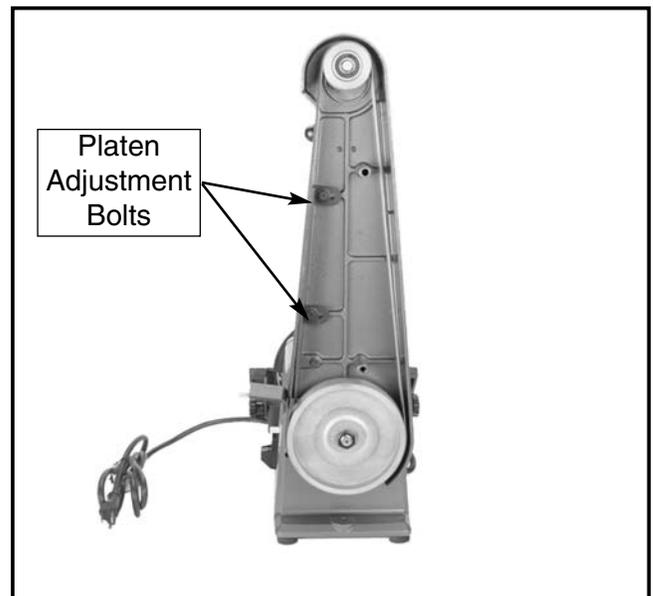

Figure 8. Platen adjustment.
Belt tension is controlled by a spring loaded cam shaft. Push the Belt Tensioning Lever (**part C, Figure 8**) rearward to slacken the belt.
1. Loosen the Locknut (**part A, Figure 8**).
2. Use the 4mm Allen® wrench to turn the tracking adjustment bolt (**part B, Figure 8**). If the belt moves to the left, turn the adjusting bolt counterclockwise. If it moves to the right, turn the bolt clockwise.
The belt platen should be adjusted so the belt just touches it. Loosen the two hex bolts and position the platen so it barely touches the belt. Tighten the two hex bolts securely. See **Figure 8**. If the platen is adjusted too far forward, it could adversely affect the belt tracking.